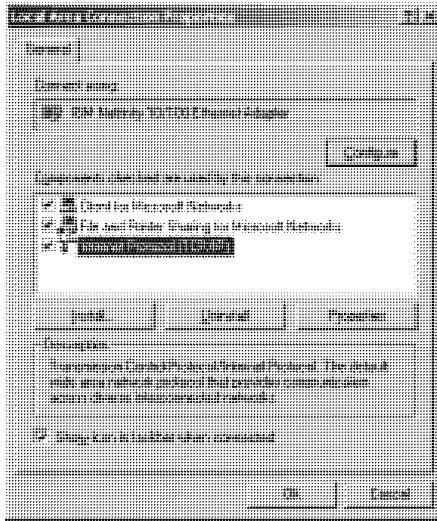

Figure 12: Local Area Connection Properties Window
5. Select the Internet Protocol (TCP/IP) and click the **Properties** Button (see Figure 12).